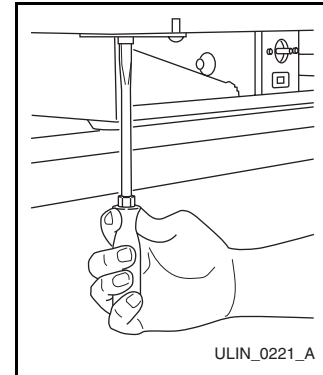

Figure 34
7. Install bottom hinge on cabinet, opposite side, aligning flat edge of hinge with outer edge of unit. Partially tighten screws (**Figure 34**).